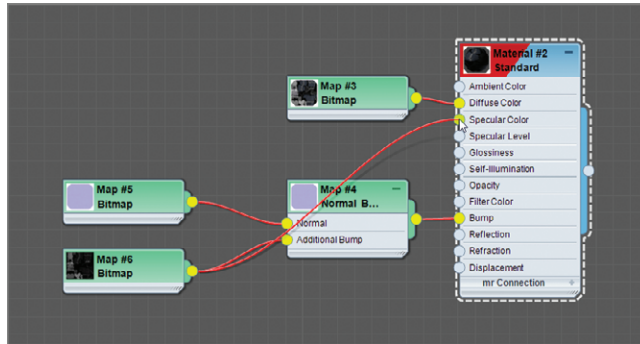

FIGURE 11.39 Dragging from the Additional Bump bitmap to the Specular Color slot
1. In the Slate Material Editor, drag from the output socket of the Additional Bump bitmap to the Specular Color input socket of the Soldier material already in your scene, as shown in Figure 11.39.